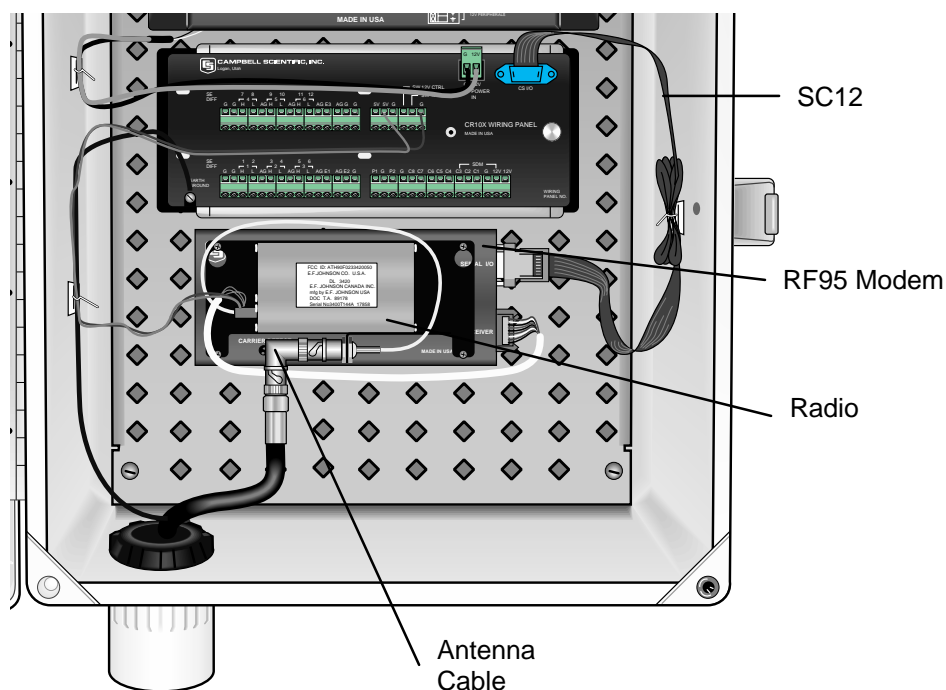

FIGURE 3.3-6. RF95 RF Modem and RF100/RF200 Transceiver
Mount the RF95 RF Modem and the radio transceiver to the enclosure backplate as shown in Figure 3.3-6.
5. Mount the antenna to the mast according to the manufacturer's instructions. Connect the antenna cable to the antenna and route the cable to the radio. Connect the antenna cable to the radio as shown in Figure 3.3-6.